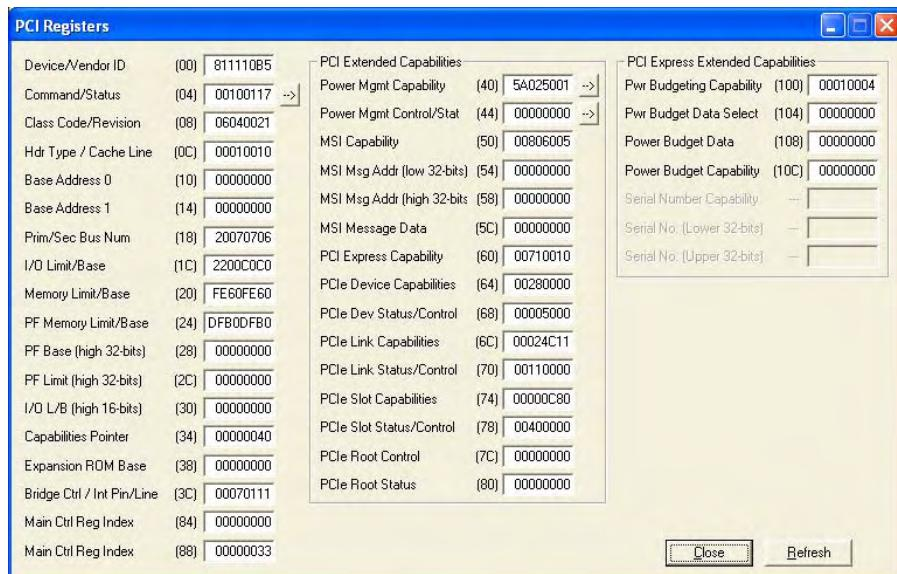

Figure 3. PEX 8311 PCI Express Configuration Space Configuration Registers Dialog Box
- e. Click the **PR** button on the **PLXMon** program window, to open the **PCI Register** dialog box (Figure 3). The values shown are in hex.
- f. Change **PCIe Dev Status/Control (68)** to read *nnnn5nnn*, where *n* is don't care, to select a Maximum Read Request Size of 4 KB. Click the **Refresh** button to confirm and return to the program window.